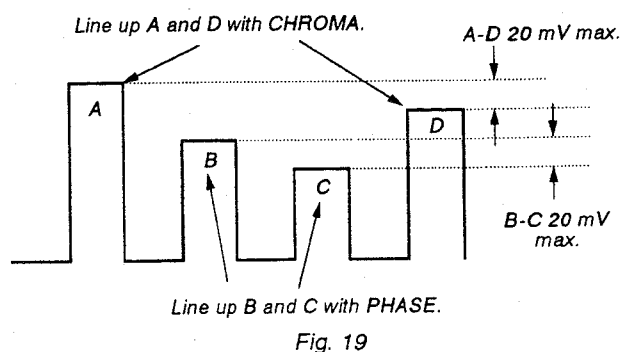

Fig. 19
- 4) Adjust **B-Y PHASE NTSC 443** and **CHROMA NTSC 443 NOR** so that the tracking is normal and the tops of the waveform line up. (Fig. 19)